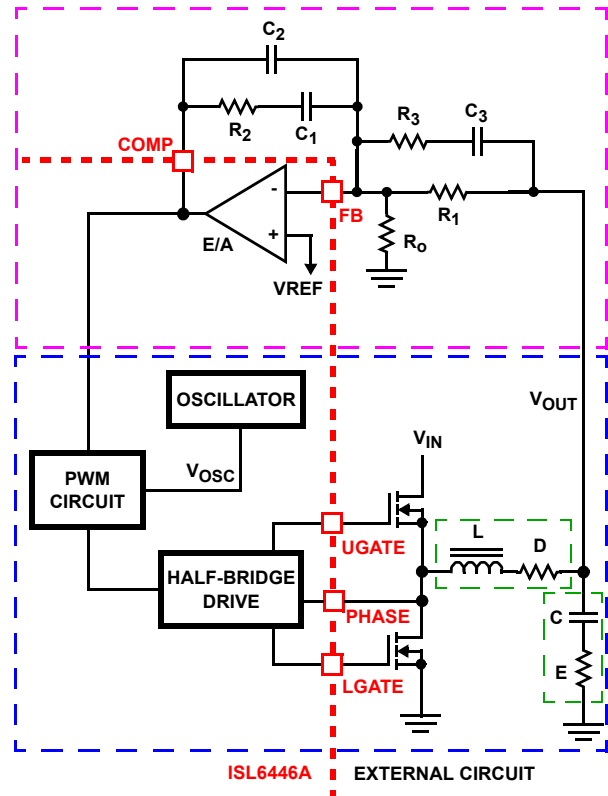

FIGURE 26. VOLTAGE-MODE BUCK CONVERTER COMPENSATION DESIGN
Figure 26 highlights the voltage-mode control loop for a synchronous-rectified buck converter, applicable to the ISL6446A circuit. The output voltage ( $V_{OUT}$ ) is regulated to the reference voltage,  $V_{REF}$ . The error amplifier output (COMP pin voltage) is compared with the oscillator (OSC) modified sawtooth wave to provide a pulse-width modulated wave with an amplitude of  $V_{IN}$  at the PHASE node. The PWM wave is smoothed by the output filter (L and C). The output filter capacitor bank's equivalent series resistance is represented by the series resistor E.
The compensation network consists of the error amplifier (internal to the ISL6446A) and the external  $R_1$  to  $R_3$ ,  $C_1$  to  $C_3$  components. The goal of the compensation network is to provide a closed loop transfer function with high 0dB crossing frequency ( $F_0$ ; typically 0.1 to 0.3 of  $f_{SW}$ ) and adequate phase margin (better than  $45^\circ$ ). Phase margin is the difference between the closed loop phase at  $F_{0dB}$  and  $180^\circ$ . The equations that follow relate the compensation network's poles, zeros and gain to the components ( $R_1$ ,  $R_2$ ,  $R_3$ ,  $C_1$ ,  $C_2$  and  $C_3$ ) in Figure 26. Use the following guidelines for locating the poles and zeros of the compensation network:
1. Select a value for  $R_1$  (1k $\Omega$  to 5k $\Omega$ , typically). Calculate the value for  $R_2$  for desired converter bandwidth ( $F_0$ ). If setting the output voltage via an offset resistor connected to the FB pin,  $R_0$  in Figure 26, the design procedure can be followed as presented in Equation 13.